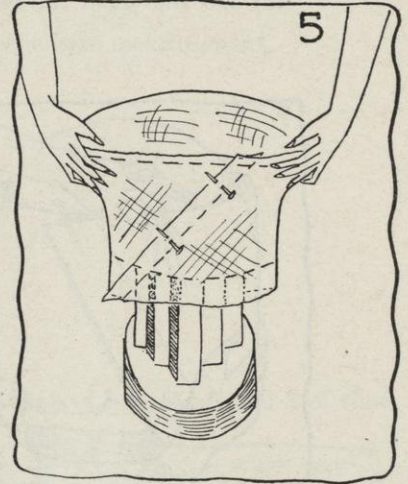

FIG. 5.
- (11) To remove crown slip the block apart (see Figure 5) and the crown will come off with it. Most crowns that are larger at the top of the side crown than they are at the bottom are split, and will come apart very easily, thus enabling you to remove crinoline very easily.
2. Cut pattern when you know the headsize measurement, but are not certain of the front-to-back and the side-to-side diameters (see Figure 5 of Job 7, page 23).